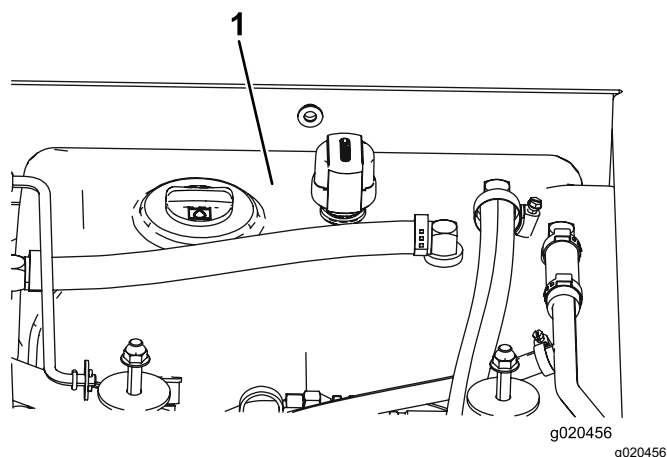

Figure 79
4. Fill the reservoir (Figure 79) with hydraulic fluid; refer to Hydraulic Fluid Specifications (page 62).